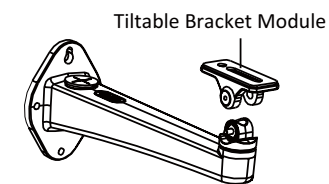

Figure 2-1 Depart the Tiltable Bracket Module
1. Depart the tiltable bracket module from the bracket, as shown in Figure 2-1.